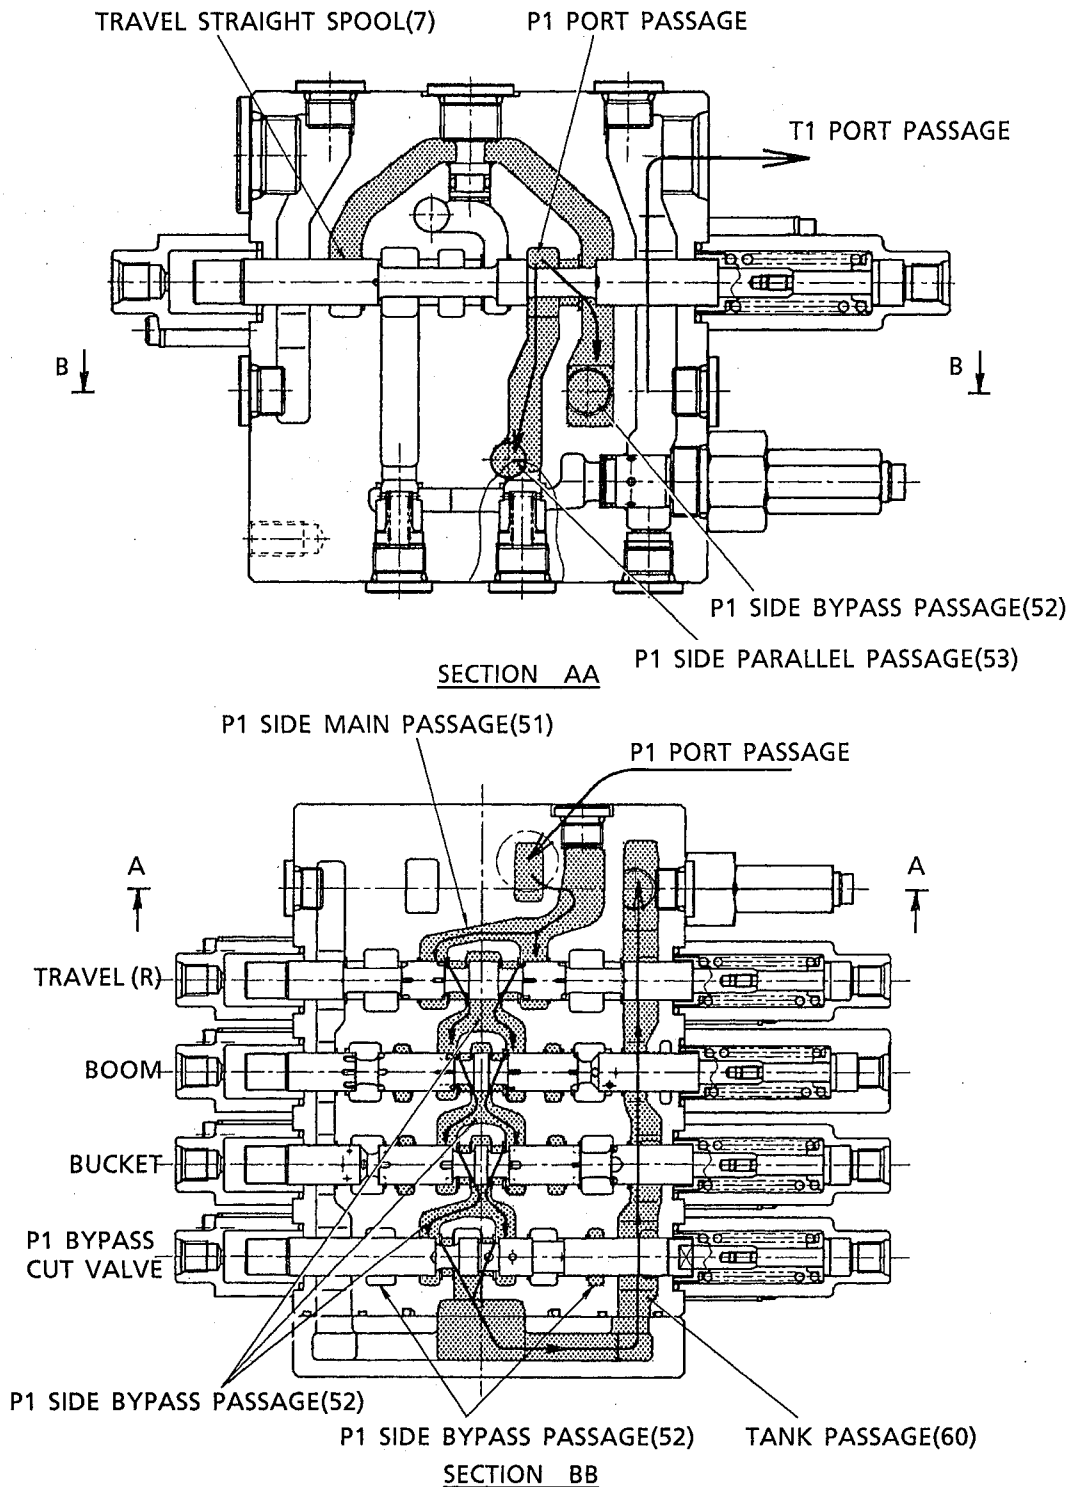

Fig. 4-5 Operation (1) at neutral
straight spool (7). Therefore, the oil passes through the travel (right)→boom→bucket→the bypass path (52) of the P1 side of the P1 bypass cut spool, in that order, and flows out of the T1 port past the tank passage (60). (Fig.4-5)